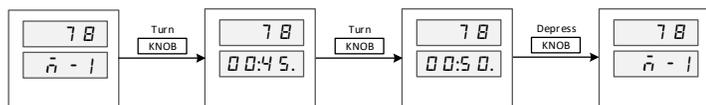

Figure 10. Changing the step-timer while the program is running.
b) Change the step-timer. When the lower display shows the current step number, turn the knob in either direction to start editing the step-timer. A flashing dot will appear at the lower right corner to indicate the new value hasn't been saved yet. Press the knob again to confirm the change, otherwise the new value won't be saved. The Figure 10 below shows this operation when the temperature is still being ramping up to the step's set-value. So, the top window only shows the current probe reading. If the step-timer had started, the top window will show the current time.